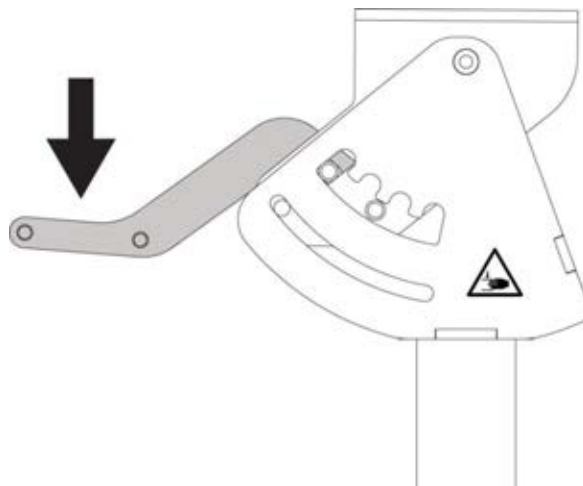

Figure 9 Dispenser Head Angle Adjuster Handle
2. Pull the **Dispenser** Head Angle Adjuster Handle down with one hand (refer to Figure 9).